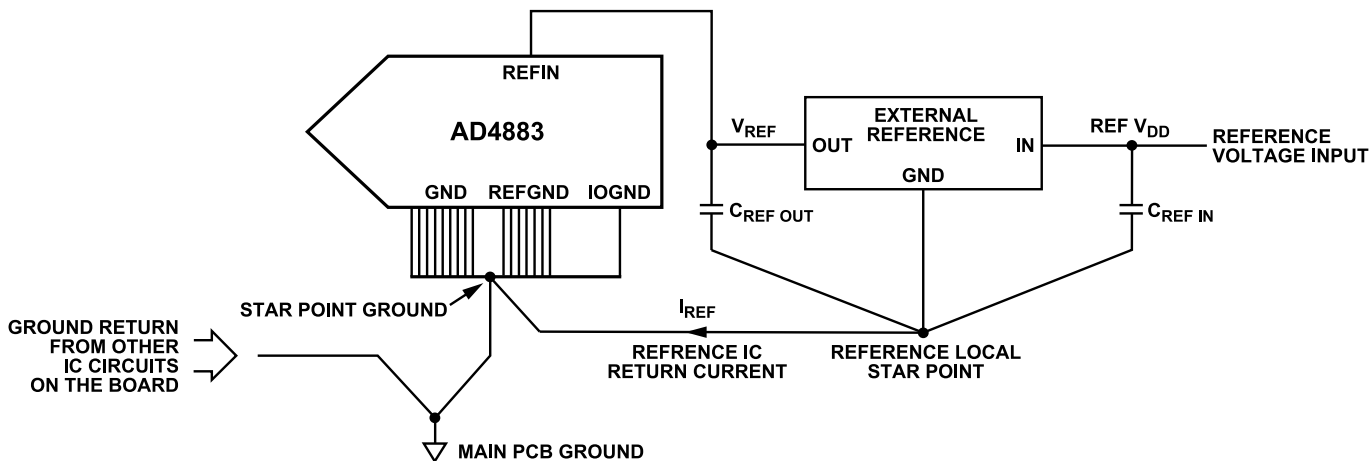

Figure 144. AD4883 External Reference Ground Connections
- ▶ Recommended connections of ground (GND), reference ground (REFGND), and digital ground (IOGND) connections are shown in Figure 144. It is recommended not to keep the current return path of the reference IC in the same current loop as the current return loop from other circuitry on the PCB. Connect the reference local star point to the ADC star point ground on the top layer of the PCB, as shown in Figure 144.